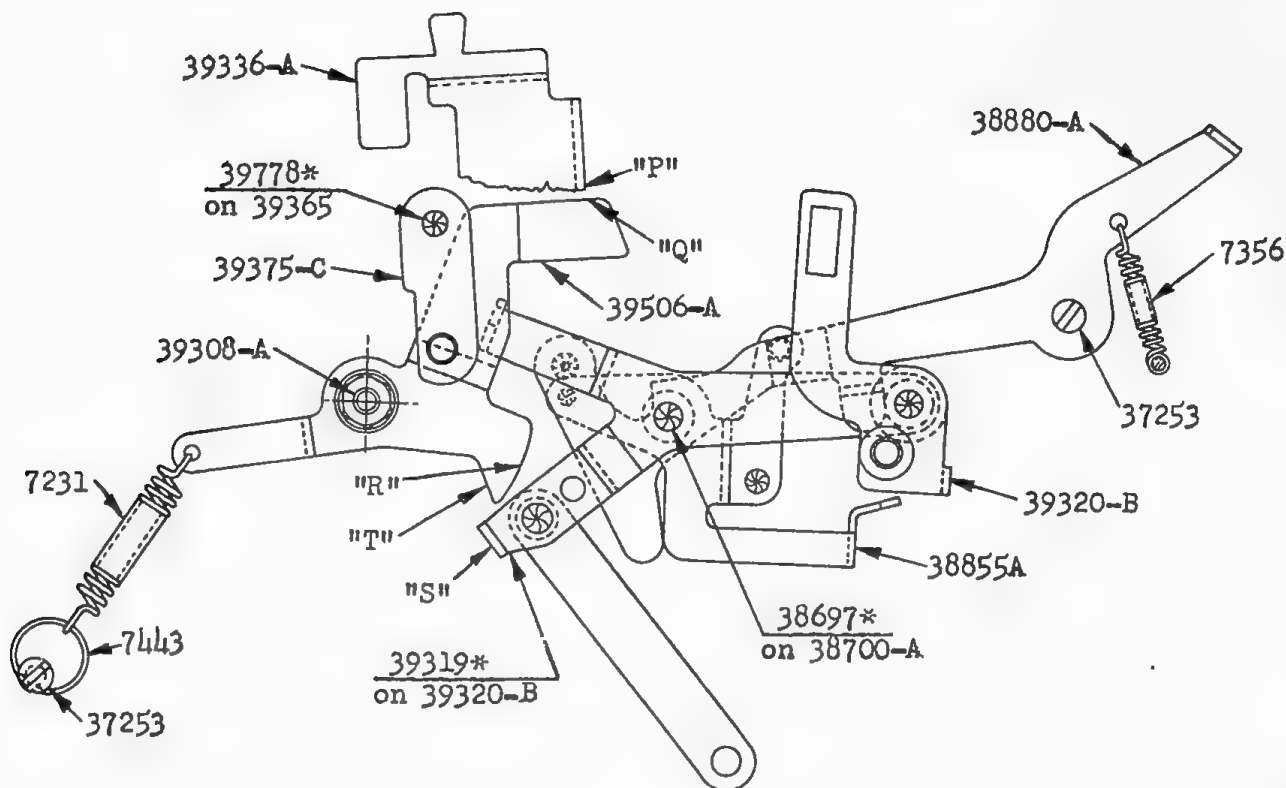

FIG. 84
1. (Fig. 84). Depression of the Multiplier Control Key Stem-39336A causes ear "P" to contact surface "Q" on the